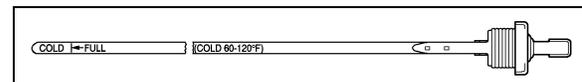

FIGURE 7: COLD CHECK
4. Insert the dipstick into the tube and then remove, checking the oil level reading (Fig. 7). Repeat the check procedure to verify the reading. If the oil reading is within the "Cold Run" band, the level is satisfactory for operating the transmission until the oil is hot